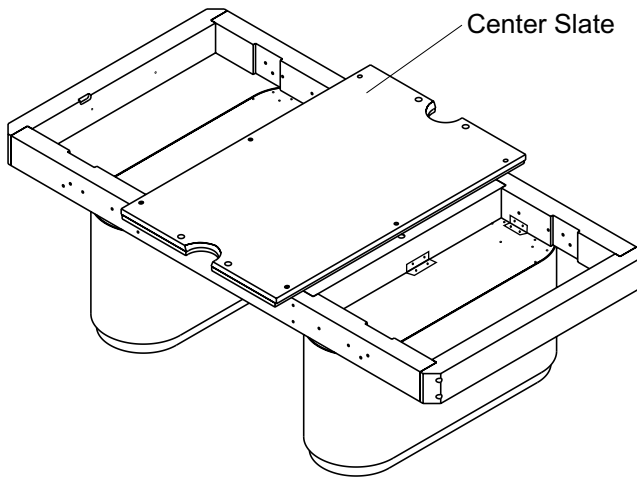
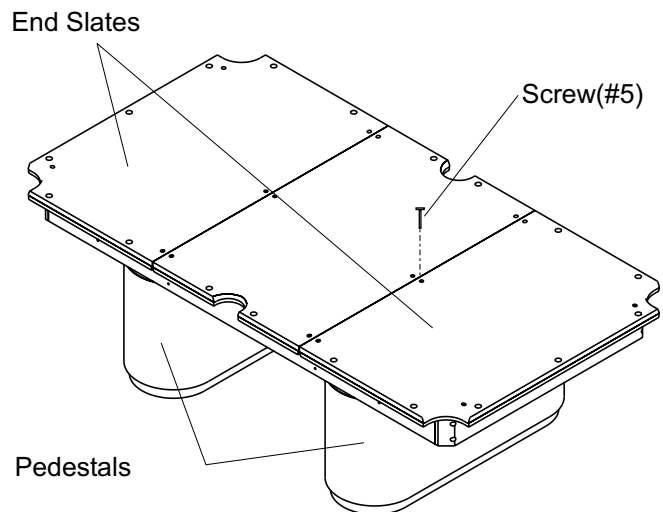

Fig.4
Fig.5
5. Position slate on top of main frame, Place center slates and liner on center of main frame, line up end slates on each end. **NOTE: Be sure there are no gaps between center slate and end slates.** Attach slate with liner to main frame using eighteen screws (#5) follow by pre-drill holes on slate and liners. **See Fig.4 and Fig.5**